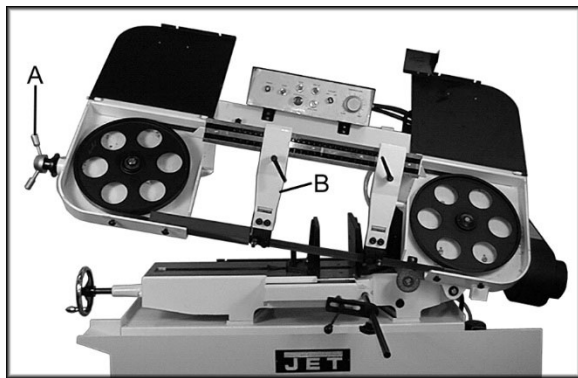

Figure 8
4. Release blade tension by turning blade tensioning handwheel (A, Figure 8) counter-clockwise until blade is free.
5. Loosen lock handle and slide left blade guide arm (B, Figure 8) to the right as far as possible.